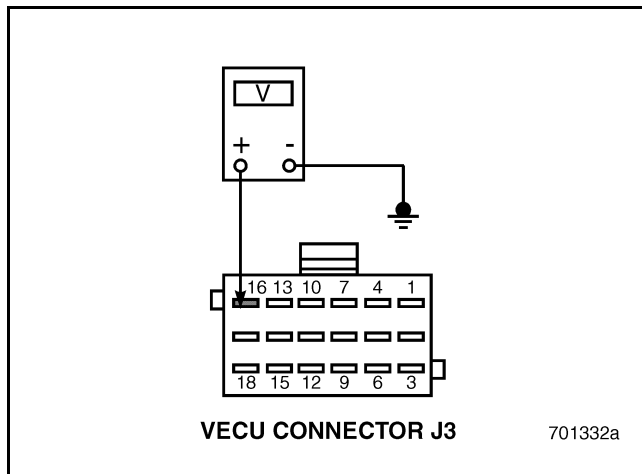

Figure 713
3. Measure the voltage between VECU connector J3 pin 16 and a good ground (see Figure 713).